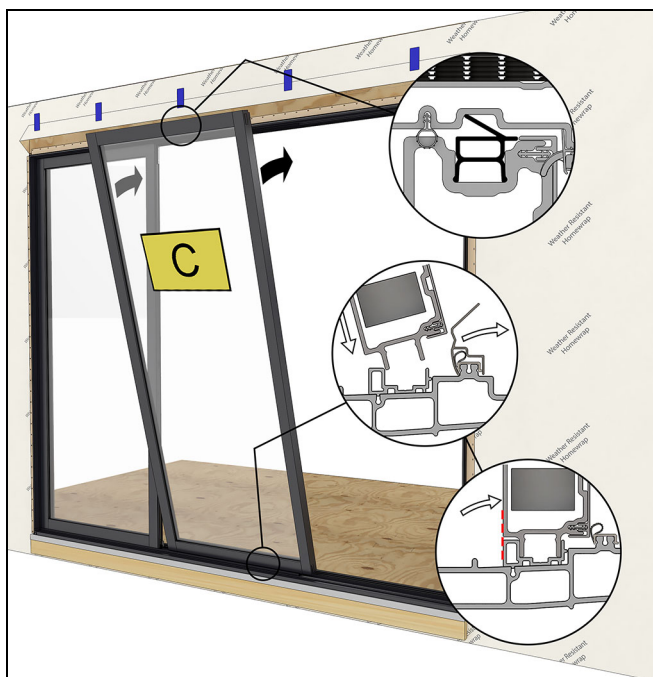

Figure 104
6. From the exterior, install the (C) stationary panel. Engage the panel retainers at the head jamb. You will hear an audible "click". See Figure 104.